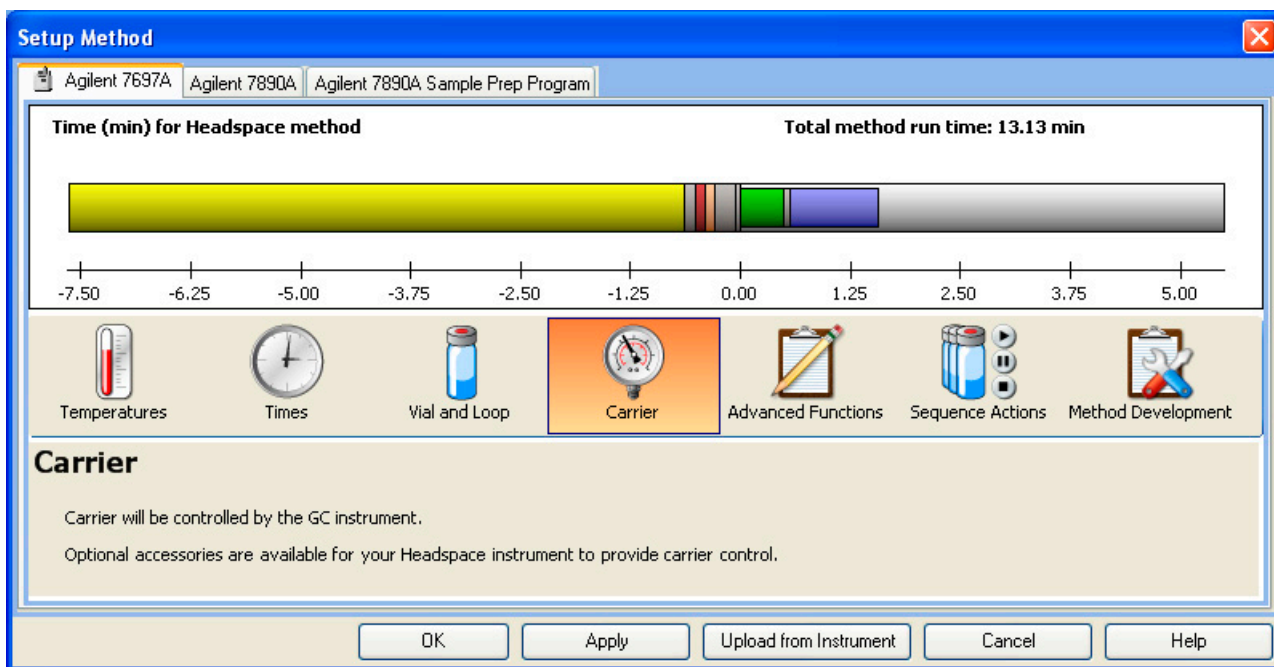

**Figure 17** Setting the carrier parameters
- 6 Select the **Carrier** icon. In this example, the GC controls the carrier flow, as shown in Figure 17. If you have the optional EPC module installed with your HS system, the HS carrier control parameters appear here.